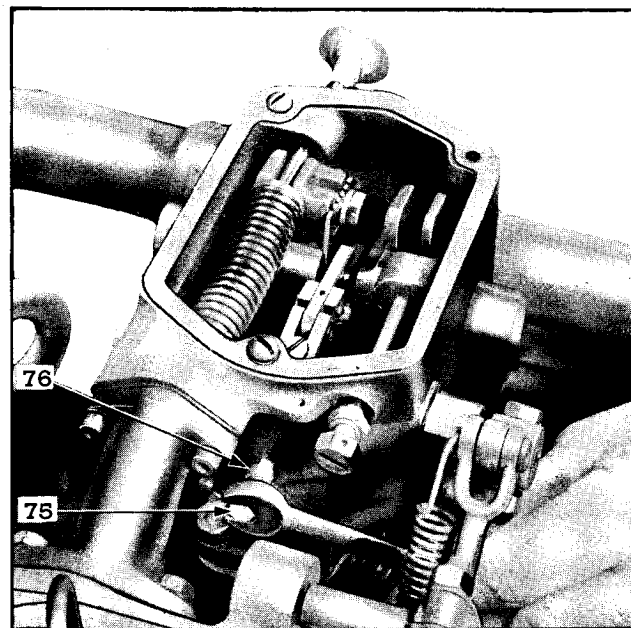

Fig. 16—Setting Maximum Speed Adjusting Screw.
4. Loosen lock nut (76) on the maximum speed adjusting screw (75), shown in Fig. 16, and turn
VI. Maximum Speed Adjustment—The maximum speed adjusting screw (75), shown in Fig. 16, limits the travel of the governor speed adjusting shaft, which is in turn connected, through linkage, to the throttle at the instrument panel. Moving the screw IN will decrease—and OUT will increase—the maximum engine speed.